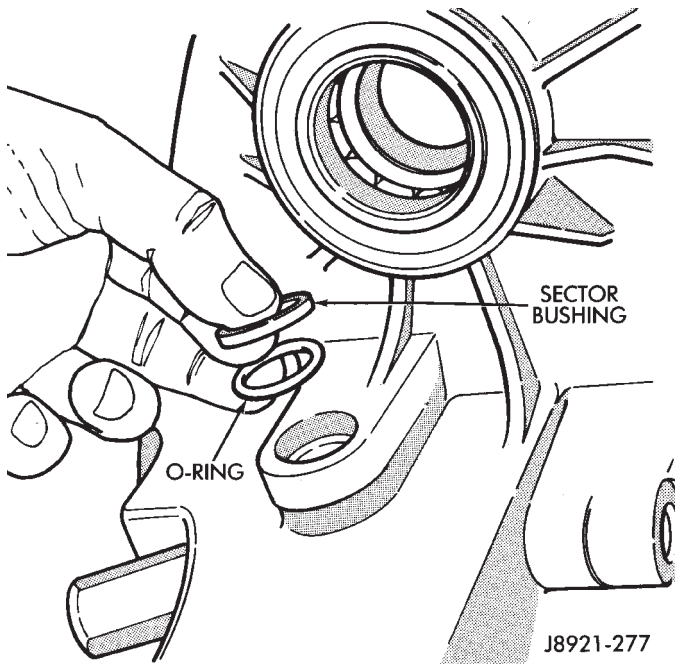
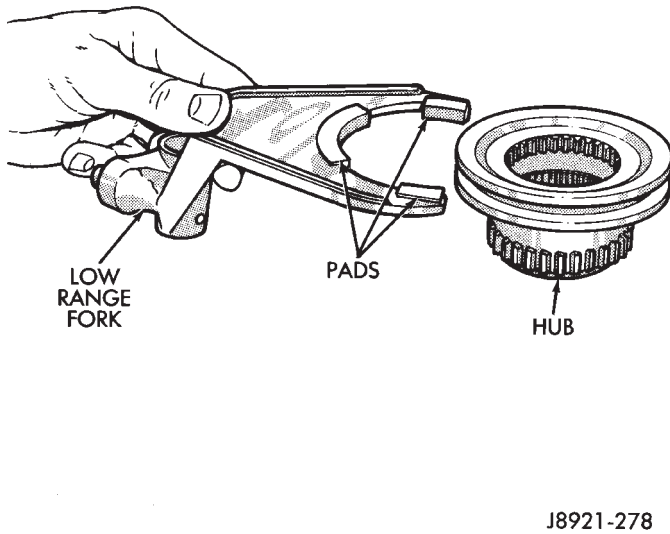

Fig. 68 Sector O-Ring And Bushing Installation
Fig. 69 Assembling Low Range Fork And Hub
- (1) Install new sector shaft O-ring and bushing (Fig. 68).
- (2) Install shift sector.
- (3) Install new pads on low range fork, if necessary, (Fig. 69).
- (4) Assemble low range fork and hub (Fig. 69).